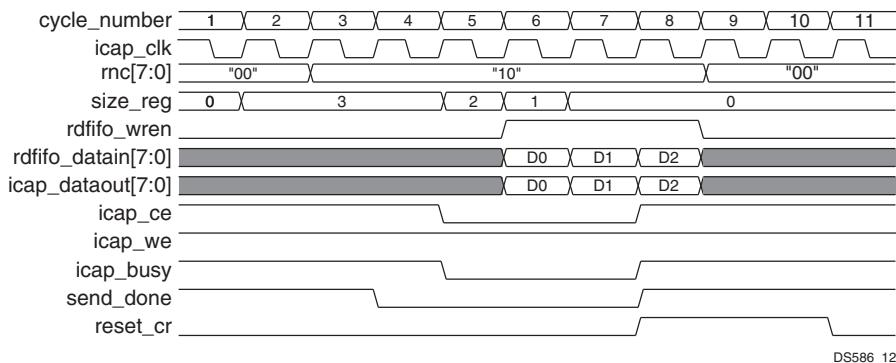
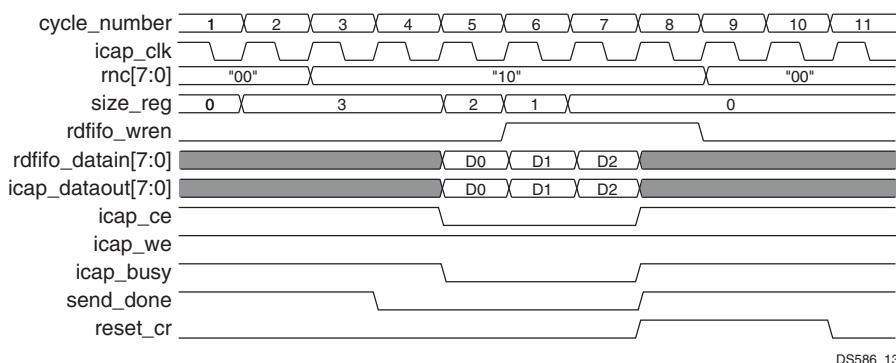
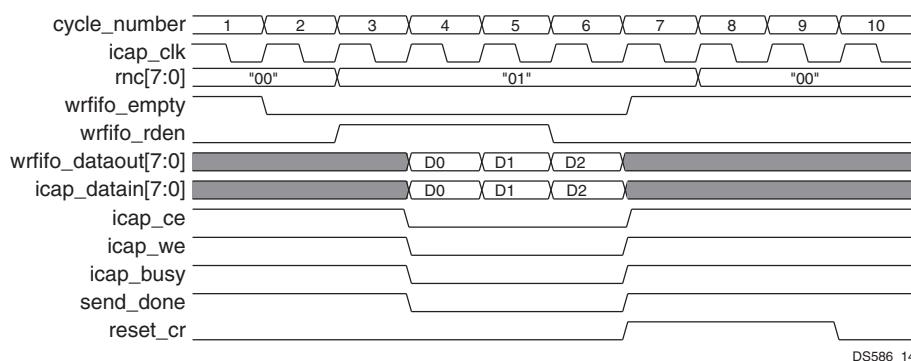

Figure 13: Read Cycle for Virtex-6 Devices
Figure 14: Read Cycle for Spartan-6 Devices
Figure 15: Write Cycle
- Write in to the Control Register to initiate the read or write of a bitstream. The CR register determines the direction of the data transfer. Writing "0x00000001" into the Control Register initiates the write configuration. Writing "0x00000002" into the Control Register initiates the read. This is shown as $rnc[7:0]$ in Figure 13, Figure 14 and Figure 15.
- Write into the Control Register to initiate the read or write of bitstream. The CR register determines the direction of the data transfer. Writing "0x00000001" into the Control Register initiates the configuration. Writing "0x00000002" into the Control Register initiates the read. This is shown as $rnc[7:0]$ in Figure 13, Figure 14 and Figure 15.
The timing diagrams shown in Figure 13, Figure 14, and Figure 15 show the read and write cycles of AXI HWICAP core for the Virtex-6 and Spartan-6 FPGAs.